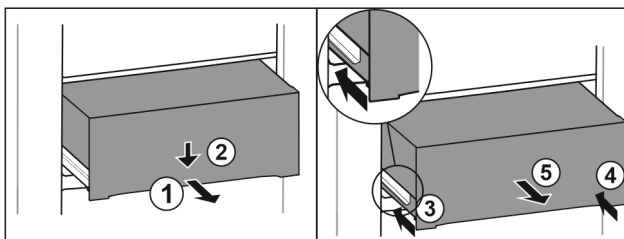

Fig. 140
- ▶ Pull out drawer half-way. *Fig. 140 (1)*
- ▶ Push the drawer down at the front. *Fig. 140 (2)*
- ▶ Push the left rail in by about 2 cm. *Fig. 140 (3)*
- ▶ Push the right rail in by about 2 cm. *Fig. 140 (4)*
- ▶ Remove drawer to the front. *Fig. 140 (5)*